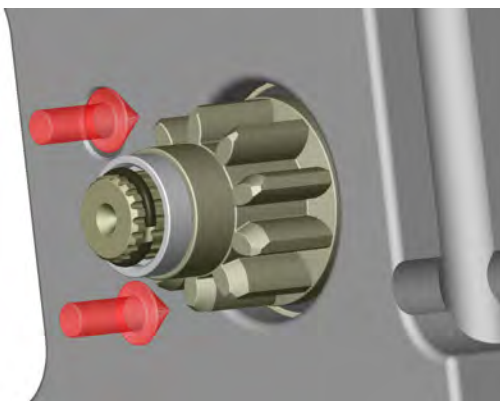

Figure 3
3. This will expose the *locking ring* on the end of the *pinion shaft* (Figure 3). Use a